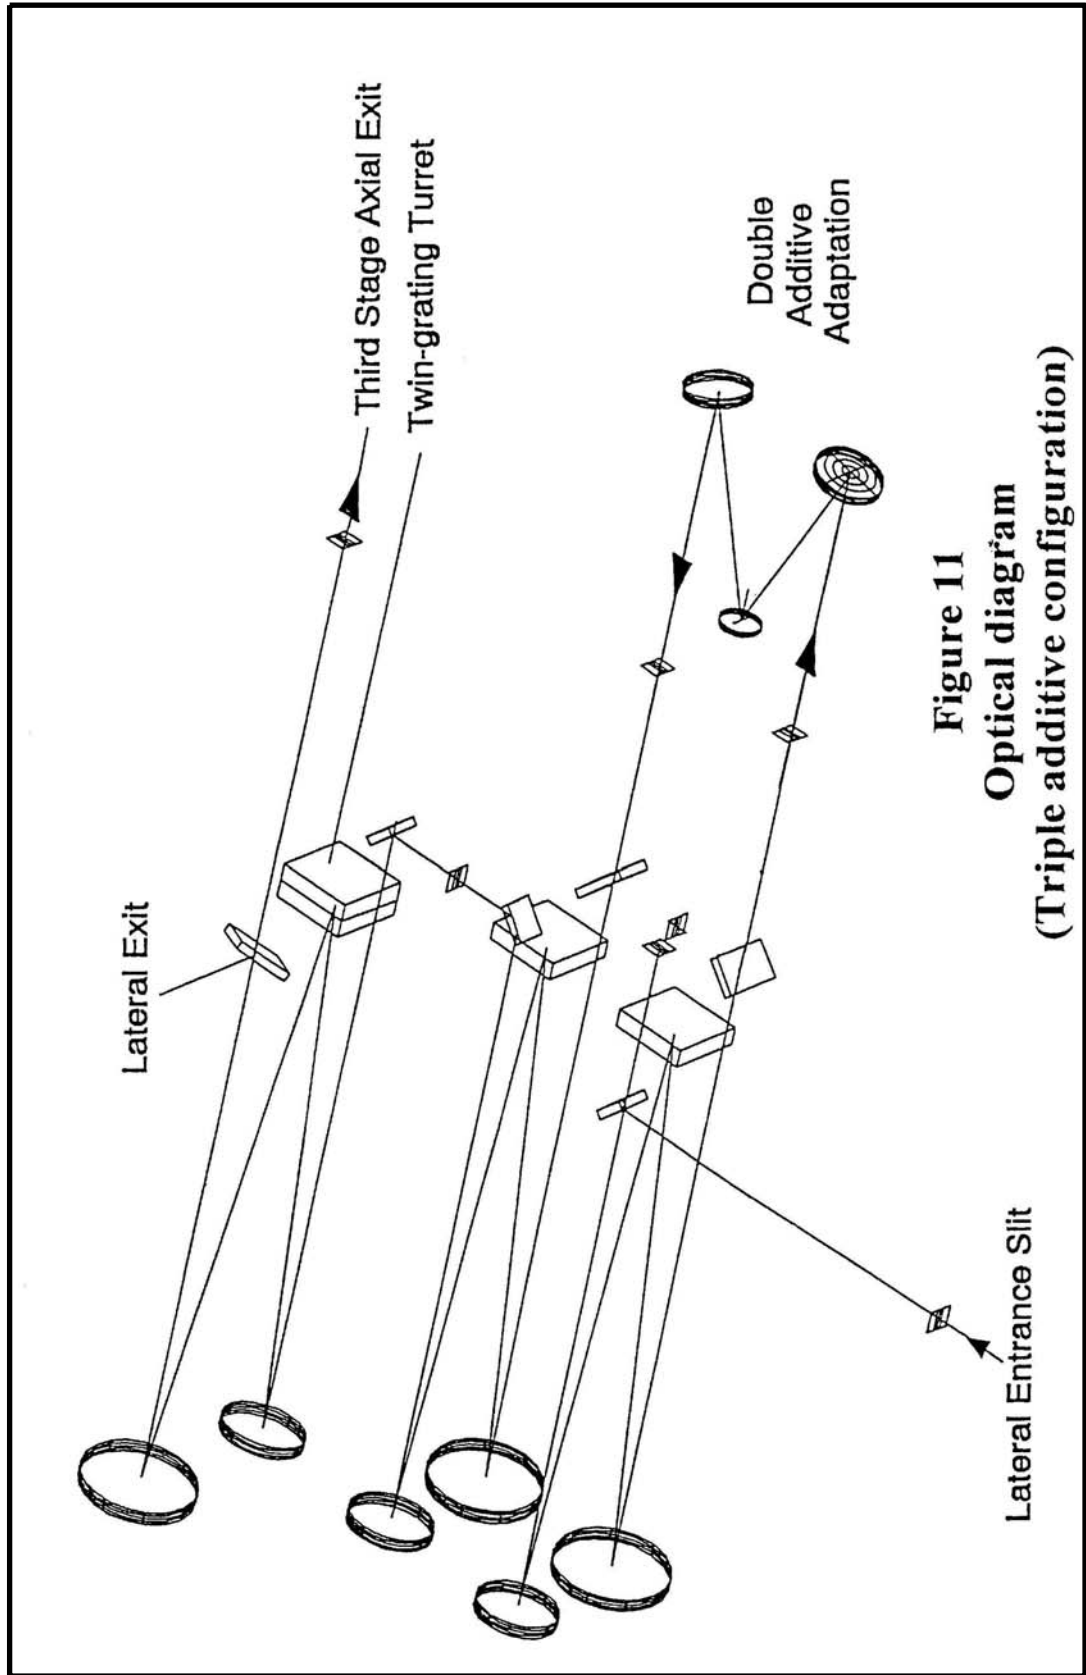

Figure 11
**1.2.1. Optical diagram (Figure 11)**